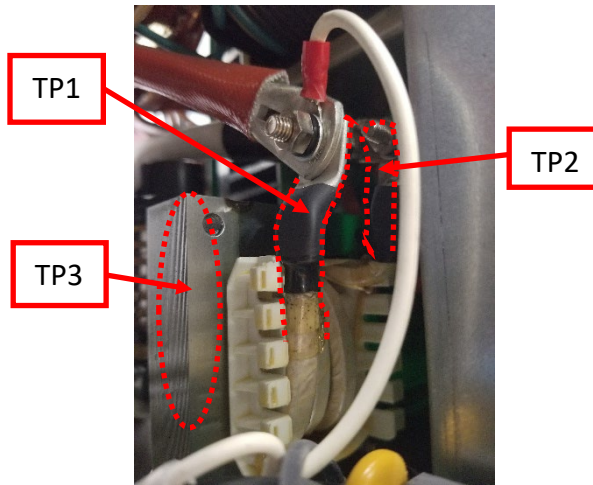

Figure F.3
A.3. Perform the static measurements in Test Table 1, refer to Figure F.3 for test point locations.